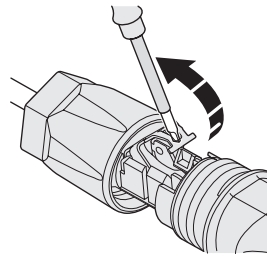

Figure 4-23
- ③ Use a flathead screwdriver to open the clamping bracket in the connector, as shown in Figure 4-23: